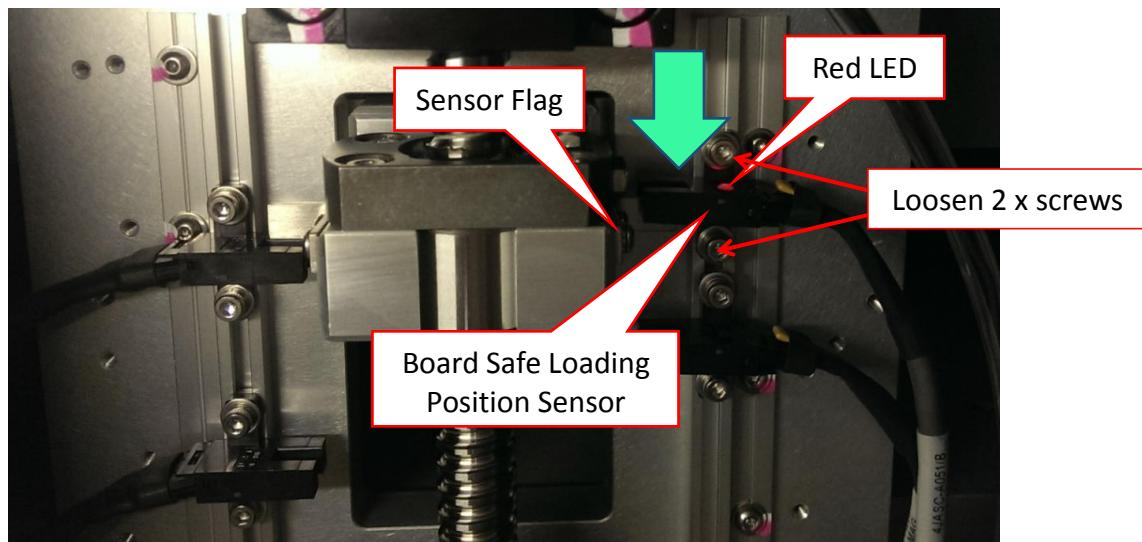

Figure 16 Safe position sensor adjustment
13. Loosen 2 x screws & re-position board safe loading sensor as shown in Figure 16. Adjust sensor until Red LED is on (camera flag should cover by sensor) & tighten 2 x screws.
15. Uncheck all input as shown in Figure 16.